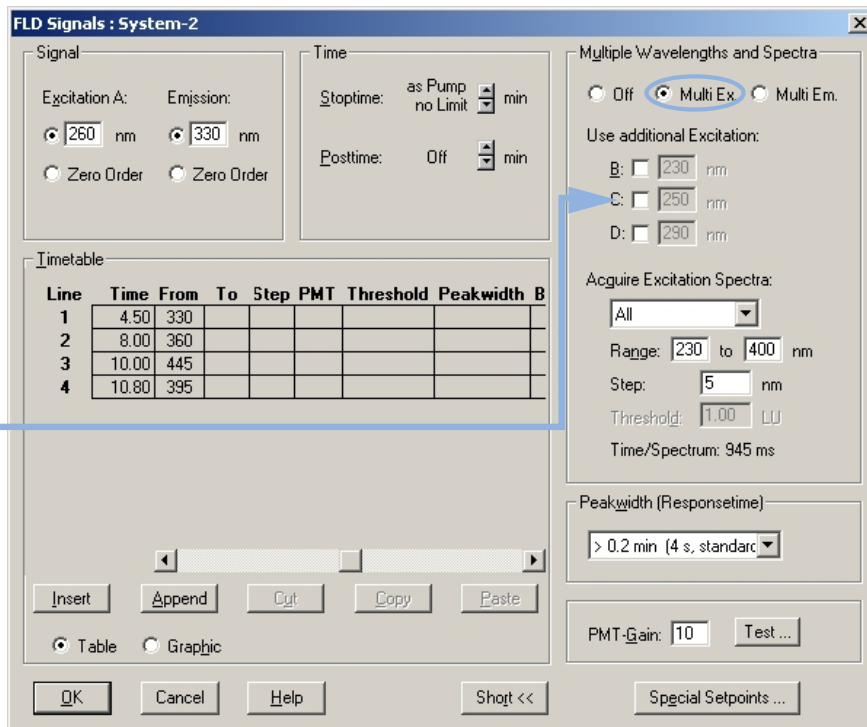

Figure 37 Detector Settings for Excitation Scan
- Using the settings and the timetable (from previous page), do a second run for the evaluation of the optimal excitation wavelength. See Figure 37 on page 88.